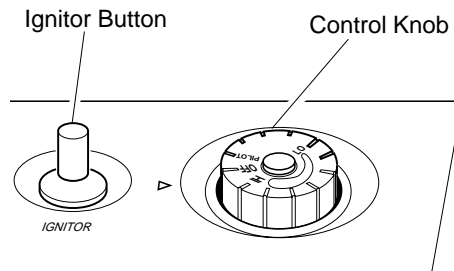

Figure 16 - Control Knob In The OFF Position
4. Wait five (5) minutes to clear out any gas. Then smell for gas, including near the floor. If you smell gas, STOP! Follow "B" in the safety information page 11, column 3. If you don't smell gas, go to the next step.
5. Turn control knob counterclockwise to the PILOT position. Press in control knob for five (5) seconds (see Figure 16).
**Note:** If pilot goes out, repeat steps 3 through 7. This heater has a safety interlock system. Wait one (1) minute before lighting pilot again.